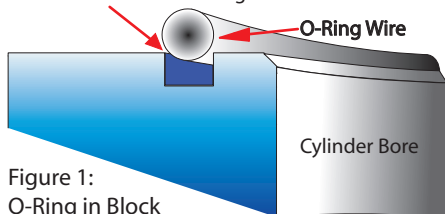
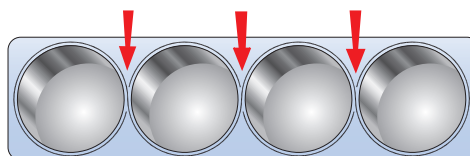

Figure 1:
Figure 3: O-Ring Receiver Groove
STEP 4 - Recommended o-ring protrusion is not more than 25% of gasket thickness (SEE FIGURE 1). Example: Gasket thickness .043", o-ring protrusion height is .008" to .010". This standard works with all thicknesses that are .050" and less. Gaskets that are thicker than .050" do not require o-ring height more than .012". NOTE: For extreme boost or heavy nitrous an O-ring-Receiver-Groove arrangement is recommended (SEE FIGURE 3). When using a receiver-groove the wire may be higher than 25% of gasket thickness; *wire height & width determines receiver groove depth & width* by maintaining the relationships in the Figure 3 illustration.